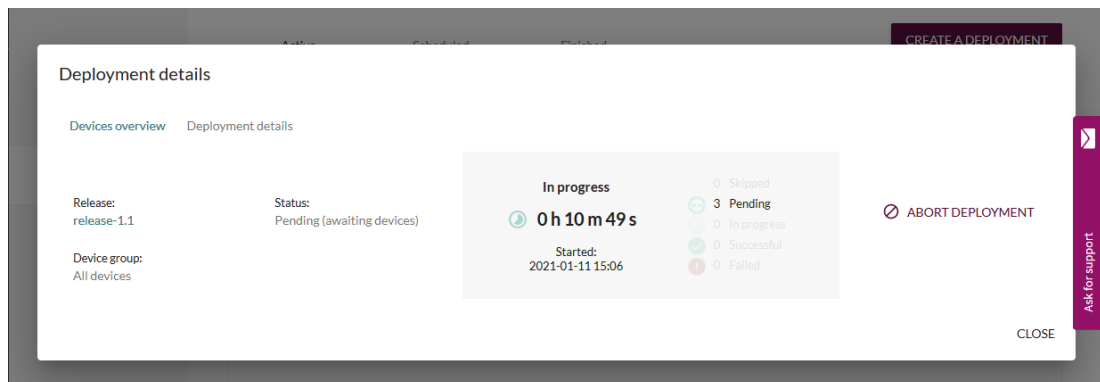

Figure 8 - Deployment progress
- Since the default polling interval is 30 minutes it can take a while before the client is actually updated. You can monitor the progress as shown in Figure 8. It is possible to force an update check by running `mender check-update` on the device.